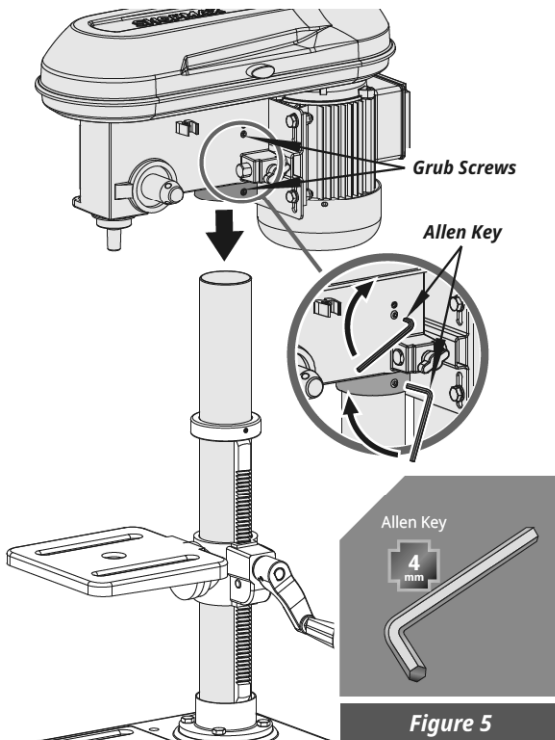

Figure 5
Place the machine head on the column tube and secure it with the two grub screws to the side with the allen key 4 mm. (See Figure 5)